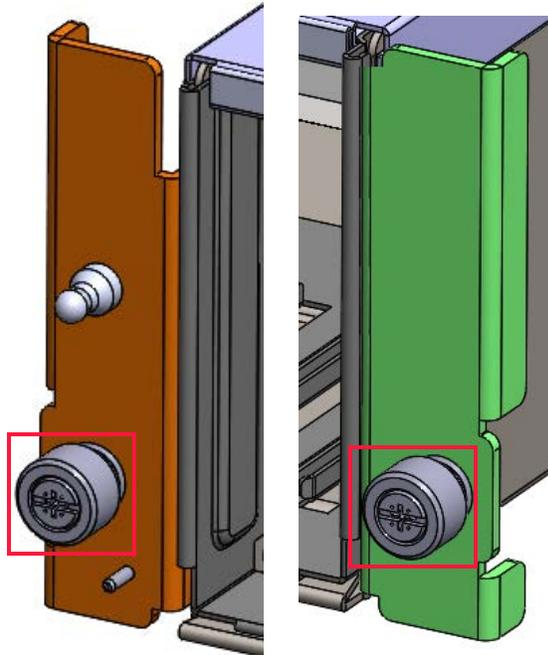

Figure 8.4 Shipping screws
2. Loosen the left and right shipping screws that secure the enclosure to the rack posts. Refer to Figure 8.4 for guidance.